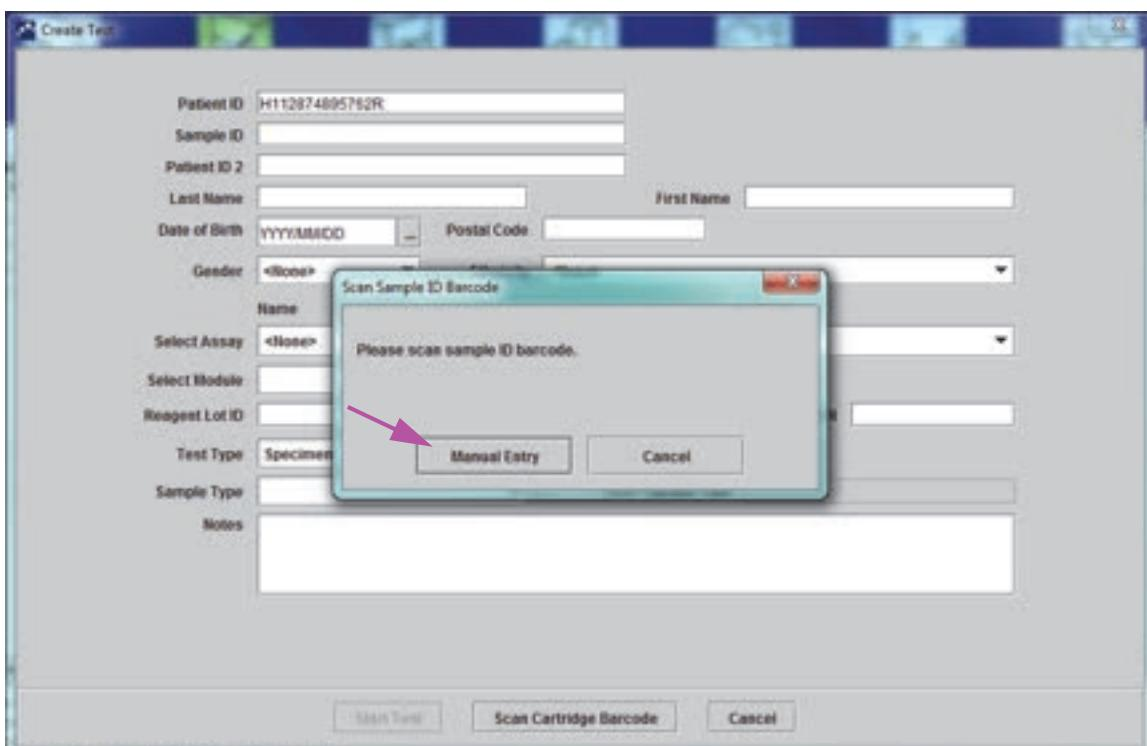

Figure 5-20. Create Test Window and Scan Sample ID Barcode Dialog Box
2. Scan the Patient ID barcode using the supplied barcode scanner. See Section 5.5. The Scan Sample ID dialog box appears. See Figure 5-20.